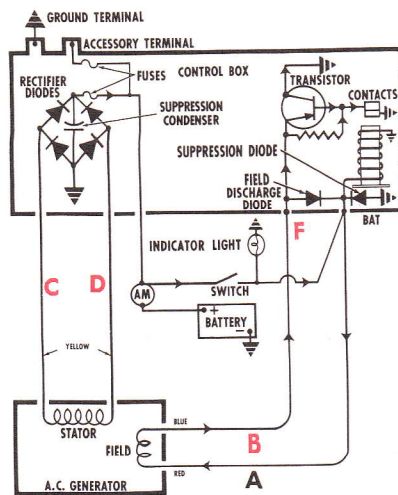

Figure 30
- A. If the lead from the field winding to the "F" terminal of the regulator (marked "B" in the wiring diagram Fig. 30) should **become grounded**. Battery will be charged excessively.
- C. A short circuit between leads from the stator winding to the rectifier (wires marked "C" and "D", Fig. 30) or from these becoming grounded. **Ammeter will show a discharge and an undercharged battery** would result.